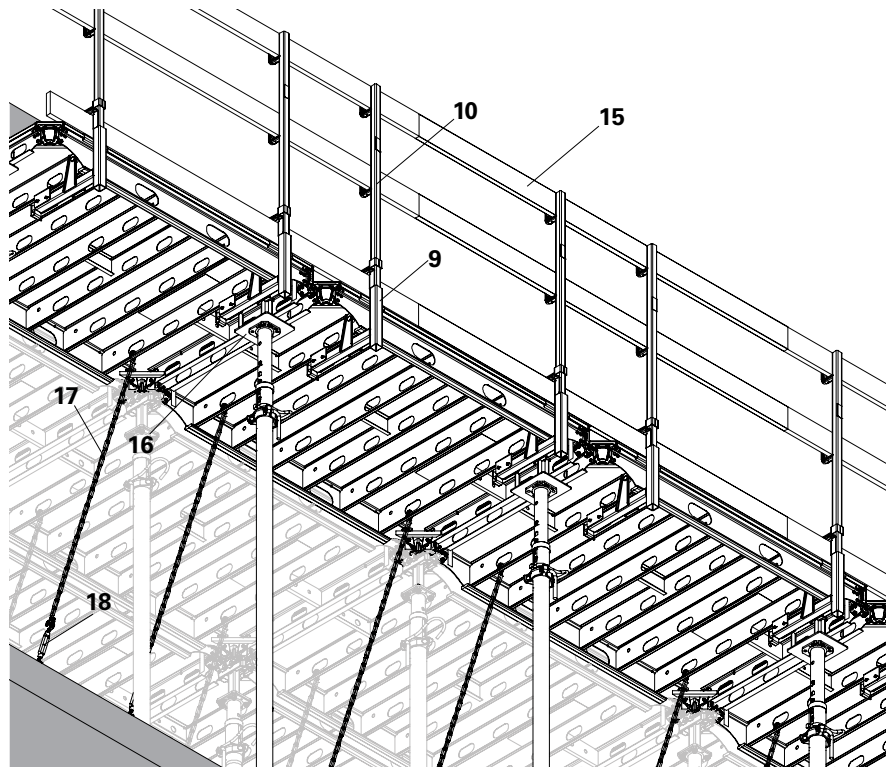

Fig. A10.10
5. Insert the guardrail post HSGP-2 (10) into the guardrail holder (9) from top only after it is firmly secured with anchor chains. (Fig. A10.10)
6. Insert guardrail boards (15) and secure with nails. (Fig. A10.10)
3. Tighten the turnbuckle (18) until the anchor chain is taut using pins and cotter pins (20). (Fig. A10.10)